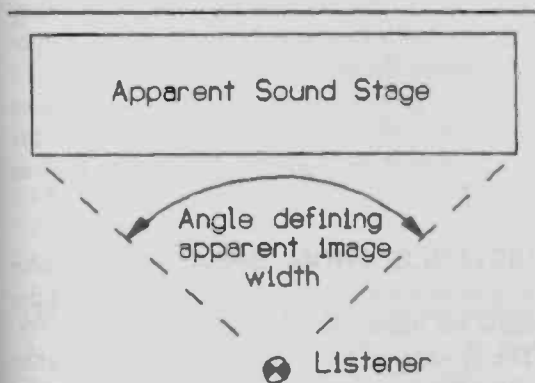

FIGURE 14-1: Listening angle.
**IMAGE WIDTH.** With forward-firing, direct-radiating, conventional magnetic speakers, image width depends on the angle formed between you and the speakers (*Fig. 14-1*). This angle is limited: if you increase it beyond a certain point, you will hear the dreaded "hole" in the middle of the sonic image.